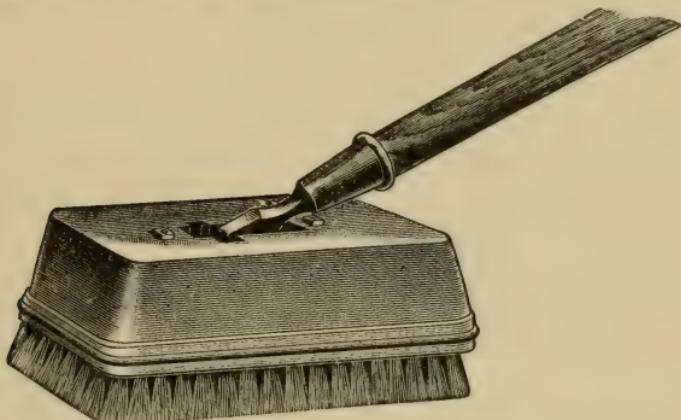

Fig. 22—Angular Bristle Fresco Brushes.
*o.* Weighted brushes for polishing waxed floors for or waxed varnished ones, are extensively used at the present to imitate dead rubbed polish. They are shown in Fig. 22.